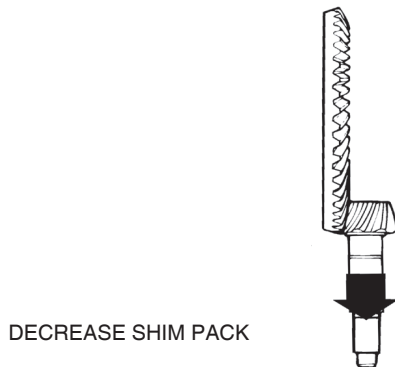

Figure 5.56
- To correct a low contact pattern: Decrease the thickness of the shim pack. When you decrease the thickness of the shim, the drive pinion will move away from the ring gear. Figure 5.56.